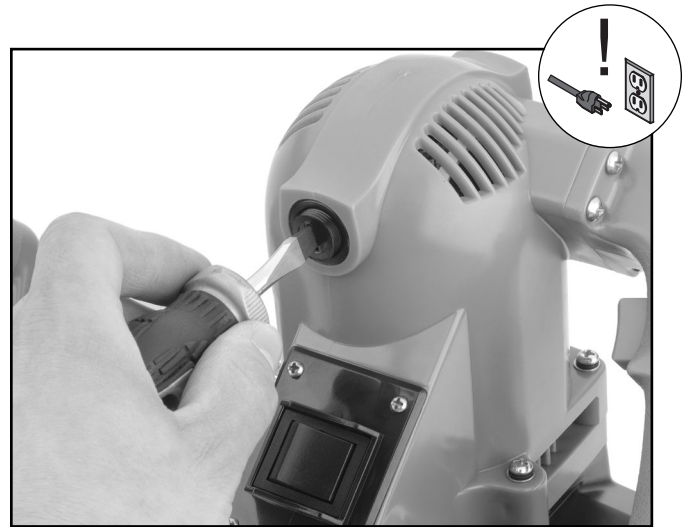

Figure 15. Motor brush removal.
1. Use a flat-head screw driver to remove the motor brush covers as shown in **Figure 15**.